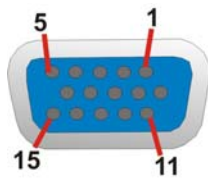

Figure 3-23: VGA Connector
- CN Pinouts:** See **Table 3-24** and **Figure 3-23**